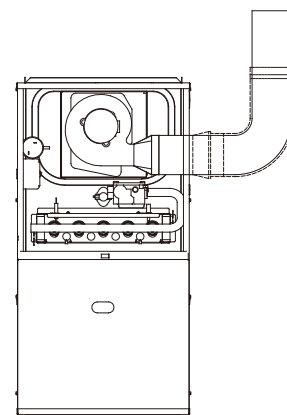

Fig. 6-14 Upflow Application-Vent Elbow Right
- 3) Upflow Right Side Venting Fig 6-14